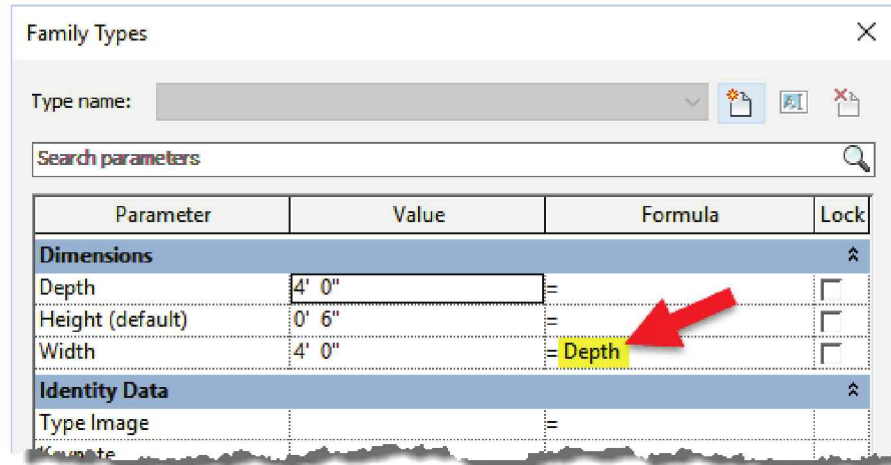

FIGURE 15-4.4 Modifying formula to control the width
- Change the formula for *Width* to simply read **Depth** (see Figure 15-4.4).